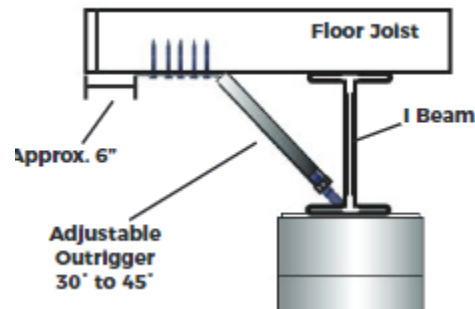

Figure 1: Oliver Technologies Adjustable Outrigger
- Adjustable outriggers should be attached near each floor rail over the lift area with one end fastened to joist and other end positioned at the chassis web and bottom flange. (Figure 1)